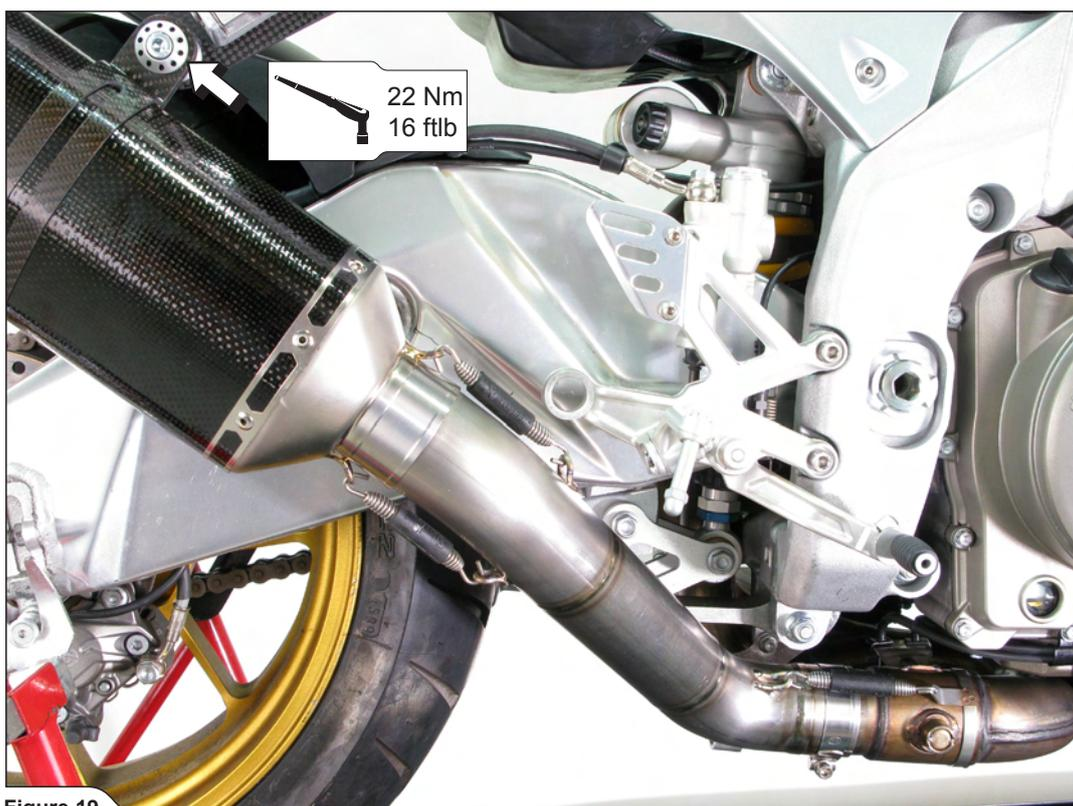

Figure 19
10. Align the muffler in respect to the motorcycle and tighten the muffler clamp using Akrapovič bolt, washer and aluminium distance bush as shown in figure (Figure 19, 20).